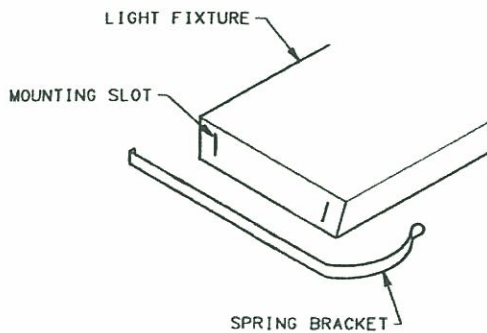

Figure 7
1. Attach spring bracket tab into light fixture by sliding spring bracket tab into mounting slot. Align hole in spring bracket with hole in light fixture and secure with screws provided. Repeat for other end of light fixture. See Figure 7.